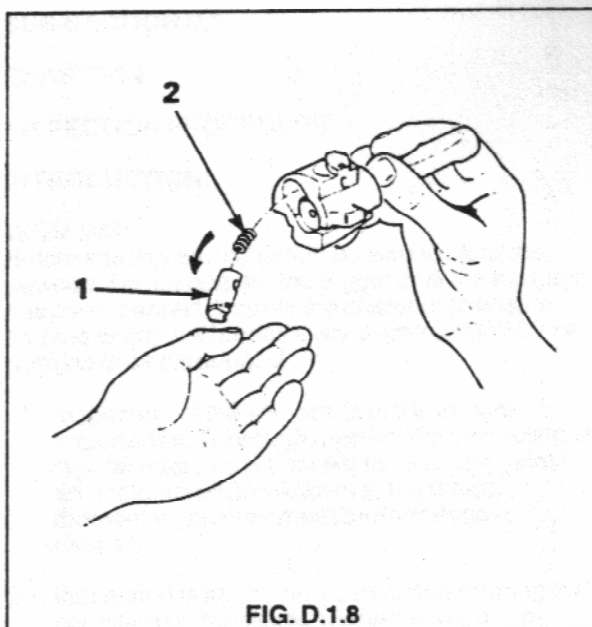

FIG. D.1.8
8. Remove the extractor and extractor spring by hand. See Fig. D.1.8.